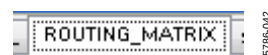

Figure 42. Selecting the **ROUTING_MATRIX** Tab
3. Click the **ROUTING_MATRIX** tab (see Figure 42) to allow the configuration of the routing matrix.